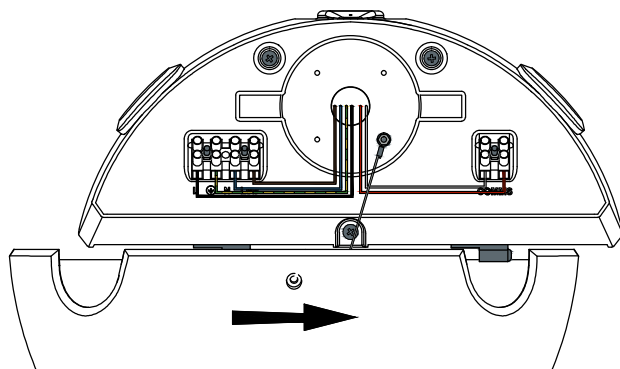

fig 1.
**8.** Take the front casting from the protective packaging and slide the male/female hinges together. See fig 1.